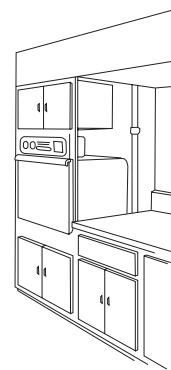

FIGURE 5
**Built-In Appliances.** You will often find a hollow space behind built-in kitchen appliances. If this space lines up with an obstruction-free interior wall above or a closet, this might be a key to your installation. See Figure 5. You may also want to consider running exposed tubing through cabinets or cupboards.